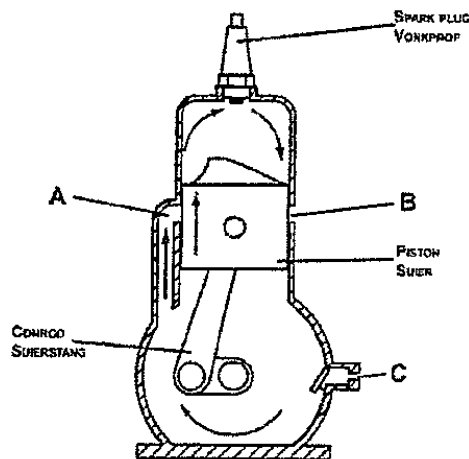

FIGURE 6
6.1 Which TWO strokes are shown in Figure 6: (2)